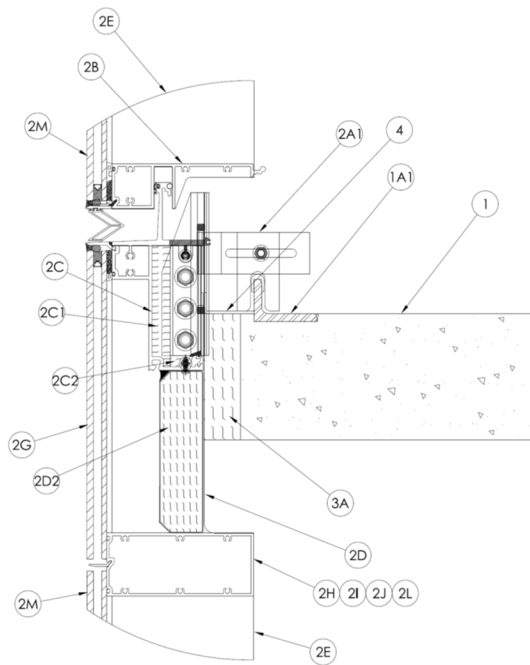

Figure 8 – Alternative Anchor Configuration
1. **ALTERNATIVE STEEL EMBED:** (Not Shown) For the alternative mounting attachment (Item 2A-1), as shown in Figure 8, install min. 2 in. x 3 in. x 3/8 in. (50 mm x 76 mm) steel angle embeds set above the slab which allows for lateral adjustment when interfacing a slotted "tomahawk" anchor that is set atop the vertical terminal end of the steel angle. Each "tomahawk" anchor is centered at each mullion location and the opposite horizontal leg of the steel angle is cast in place flush with the top surface of the floor. Embeds shall be secured with included 1/2 in. studs or weld rods of embeds to rebar frame.
1. **ALTERNATIVE MOUNTING ATTACHMENT:** As shown in Figure 8, the mounting attachments to the floor slab include min. 11/16 in. (17.5 mm) thick extruded serrated aluminum "tomahawk" anchors that have one slotted end resting atop the vertical leg of the steel embed (Item 1A-1) on both sides of each mullion. The anchor is attached to the mullion with steel bolts per the manufacturer's design. The width of each anchor is min. 2-1/2 in. (64 mm). Each anchor is extruded with a serrated surface that is mated to a serrated surface of an 11/16 in. (17.5 mm) extruded aluminum slotted bar having a min. width of 2 in. (50 mm). The "tomahawk" components described above are secured together using a nominal 3/8 in. (10 mm) steel bolt and two jackscrews. The vertical leg of the 11/16 in. serrated bar into the channel slot of the mullion receiver bolted to the side of each mullion.